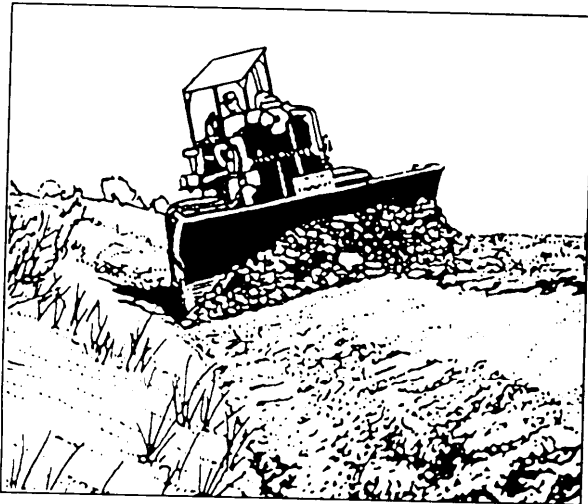

Figure 11-32.—Angle blade ditch cut.
An **angle blade** is preferable for digging a “V” type of ditch for two reasons: (1) you can side cast the windrow in a single pass and (2) the angled blade will side cast the material to the sides of the ditch as you travel along the windrow, as shown in figure 11-32.